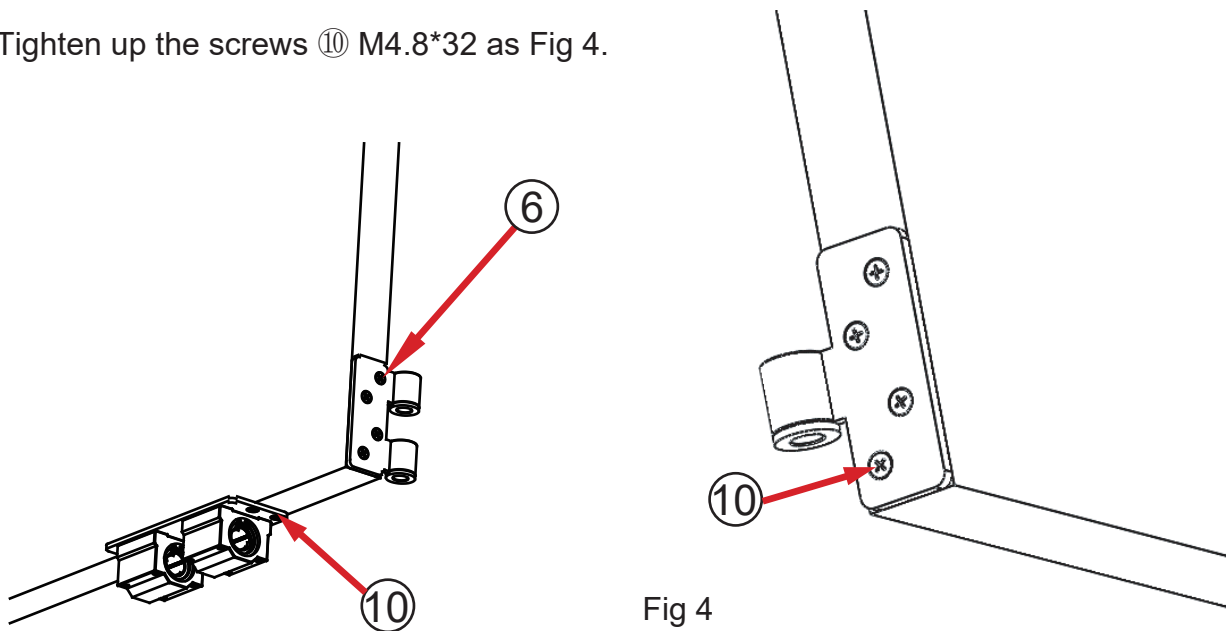

Fig 4
3. Tighten up the screws ⑩ M4.8*32 as Fig 4.